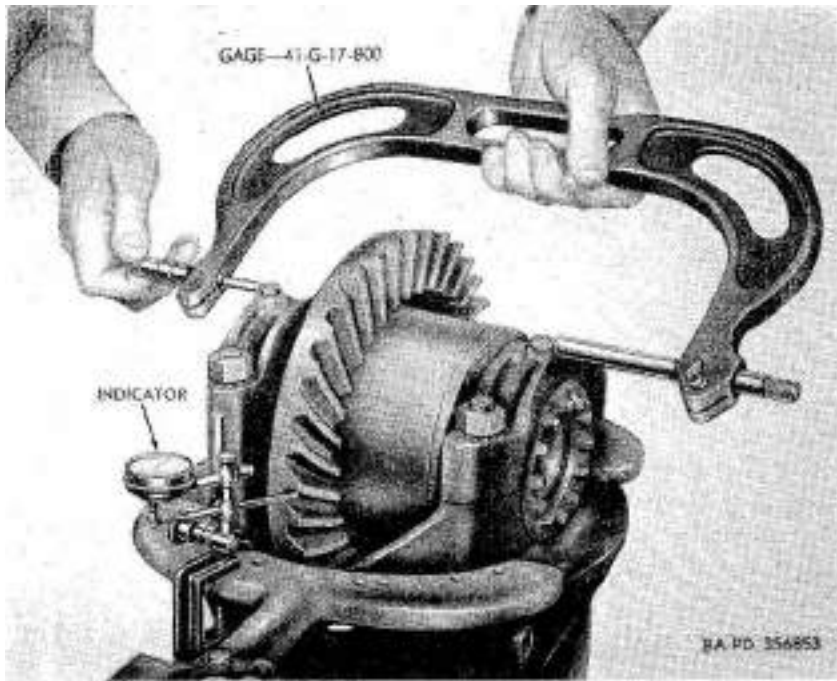

Figure 93. Proper application of spread gage and dial indicator.
- (2) Turn differential adjusting nut (N) (tooth side of drive gear) out $1\frac{1}{2}$ turns to relieve bearings. Tighten bottom nuts on differential bearing cap studs to 100 to 120 pound-feet torque.
- (3) Set micrometer adjustment on spread gage (*fig. 93*) at "0" position ; then position arbor at opposite end so that gage will just slip over outside edges of lock washer screws in differential bearing caps. Adjust micrometer so that gage properly contacts heads of lock washer screws. Remove gage and turn the micrometer out (counterclockwise) 0.014 inch. Place gage aside, exercising care to prevent changing of the micrometer setting. Remove lock washer screws from differential bearing caps.
- (4) Install a dial indicator (*fig. 93*) on drive pinion carrier to check backlash between drive gear and pinion.
- (5) Rotate the drive gear a complete revolution and check the backlash at five different positions to determine the point of least clearance between drive gear and pinion. After the point of least clearance has been established, do not rotate drive gear until all adjustments have been completed.
gage 41-G-17-800 (fig. 93) to determine if the spread is within the limits specified in paragraph 343.